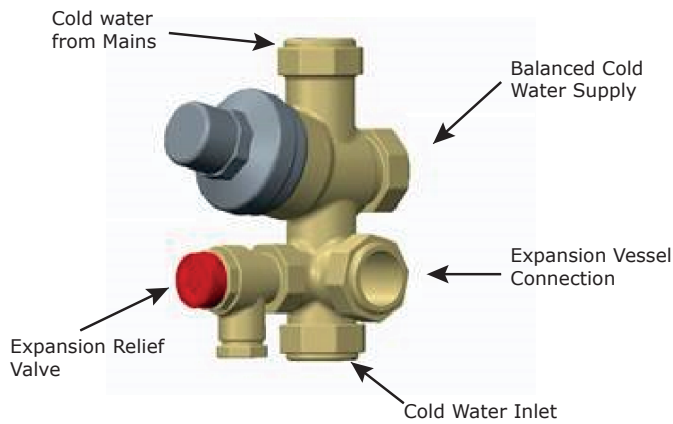

Figure 4: Detail showing the connection of the expansion vessel to the inlet group
**Note: The expansion vessel must be installed to the side of the expansion relief valve on the inlet group. To do this the blanking plug must be removed and the expansion vessel connected, as shown in Figure 4.**